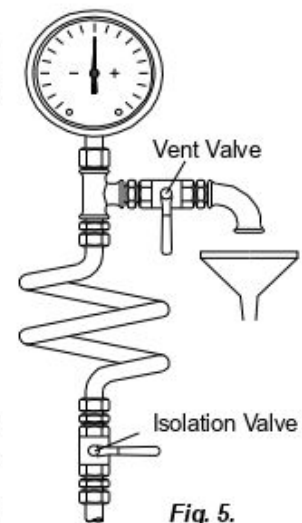

Fig. 5.
- Pressure and vacuum gauges must be properly anchored and connected at the measuring points located on the pump flanges by means of or on the pipes close to the flanges approximately 8 mm diameter tubing with pig tail configuration to lessen pressure fluctuation. For safety purposes isolating and vent valves should be fitted before the gages (**Fig. 5**).